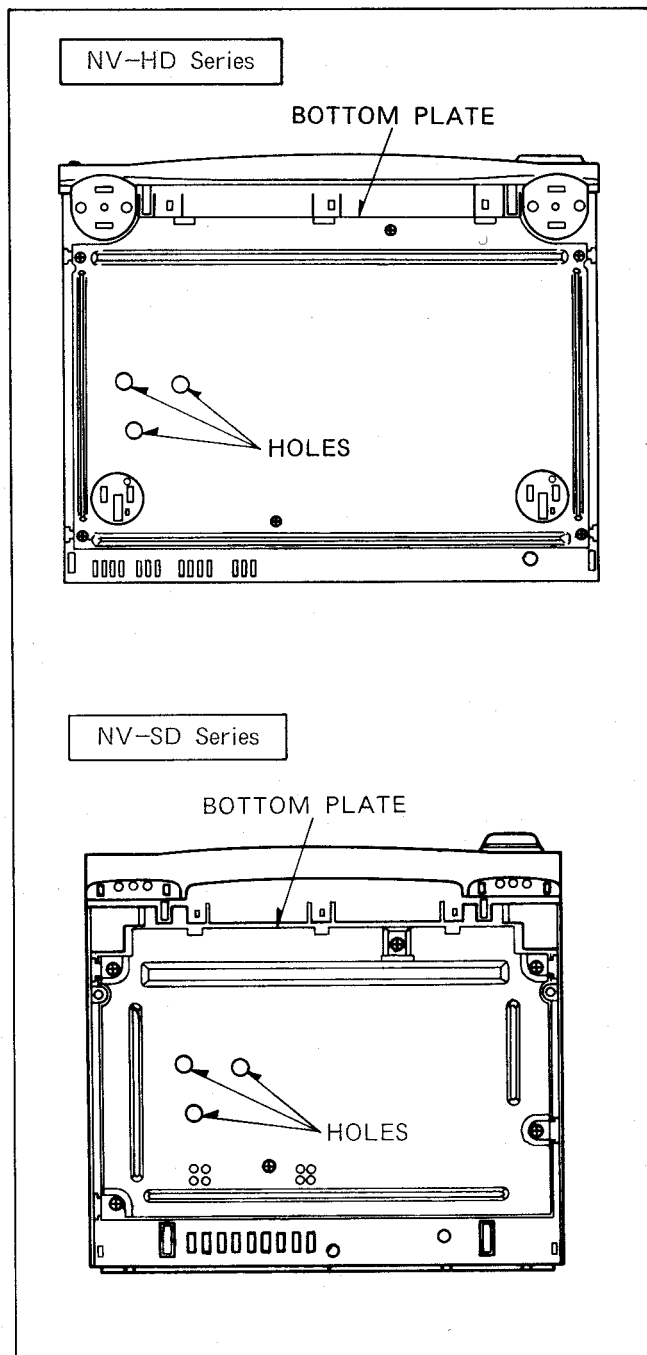

Fig. S4
- 2) Remove the 3 screws of the Cylinder Unit with a magnetized screw driver through the holes on the Bottom Plate as shown in Fig.S4.